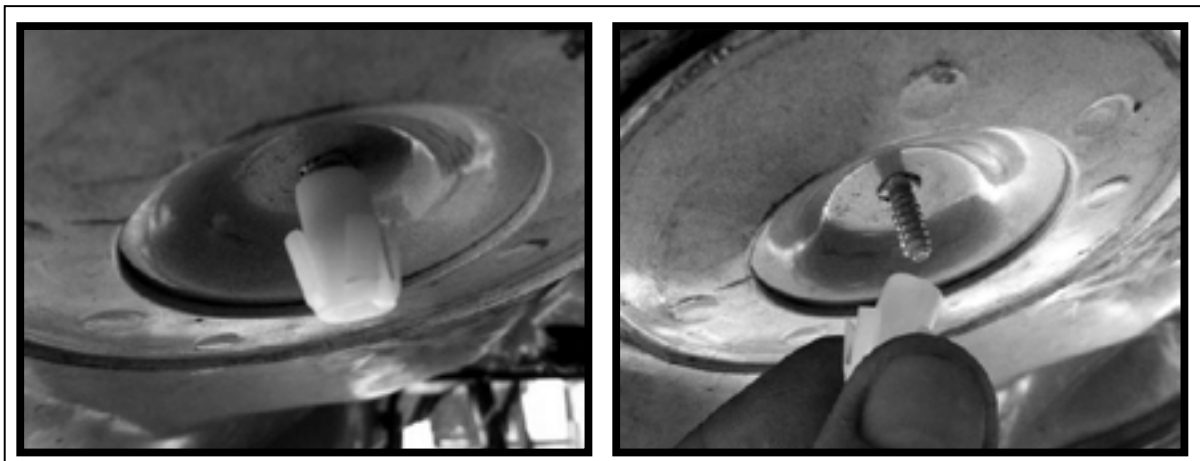

FIGURE 10-32
- 35.0 REPLACE RETENTION CLIP WITH NEW CLIP PROVIDED ON THE UPPER MOUNT. (FIGURE 10-32)